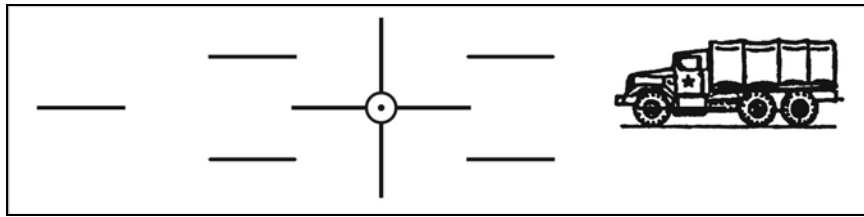

Figure 6-28. Far lead applied to a moving truck.
(2) When using HEI-T and 7.62-mm ammunition, the gunner uses far lead. To apply far lead, he centers the farthest lead line of the ISU on the target. Figure 6-28 shows a far lead truck engagement.